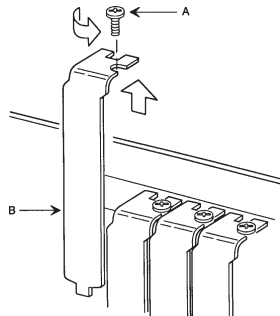

Figure 2-3. Removing the slot cover.
**2) Remove the slot cover from the next available slot (Figure 2-3).**